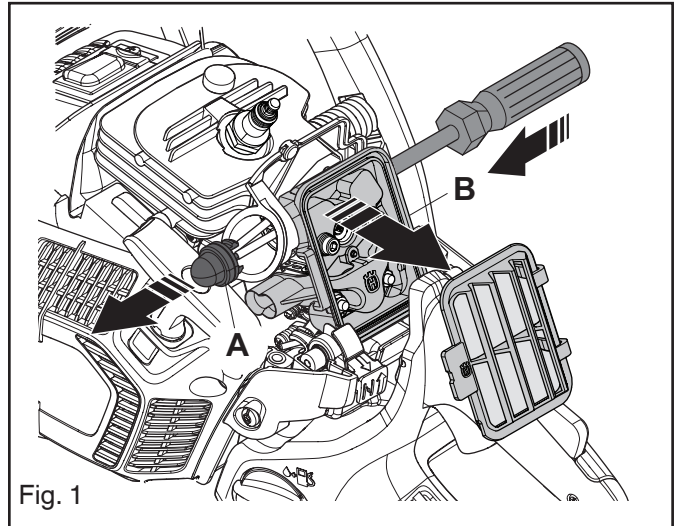

Fig. 1
2. If the chainsaw is fitted with a spark-arrester, refit it. See Figure 1.
3. Fit the cooling plate, gasket and muffler to the cylinder. See Figure 1.
4. Finger-tighten the two screws and then screw the screws fully. See Figure 1.
3. Use a screwdriver to eject the primer bulb (A) from the air filter holder (B). See Figure 1.